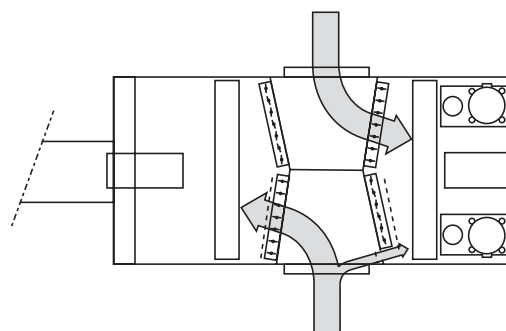

Figure 16
F. Switch the unit to "fresh air" (Figure 16), and measure the static pressure at 2/3/4/5/6.